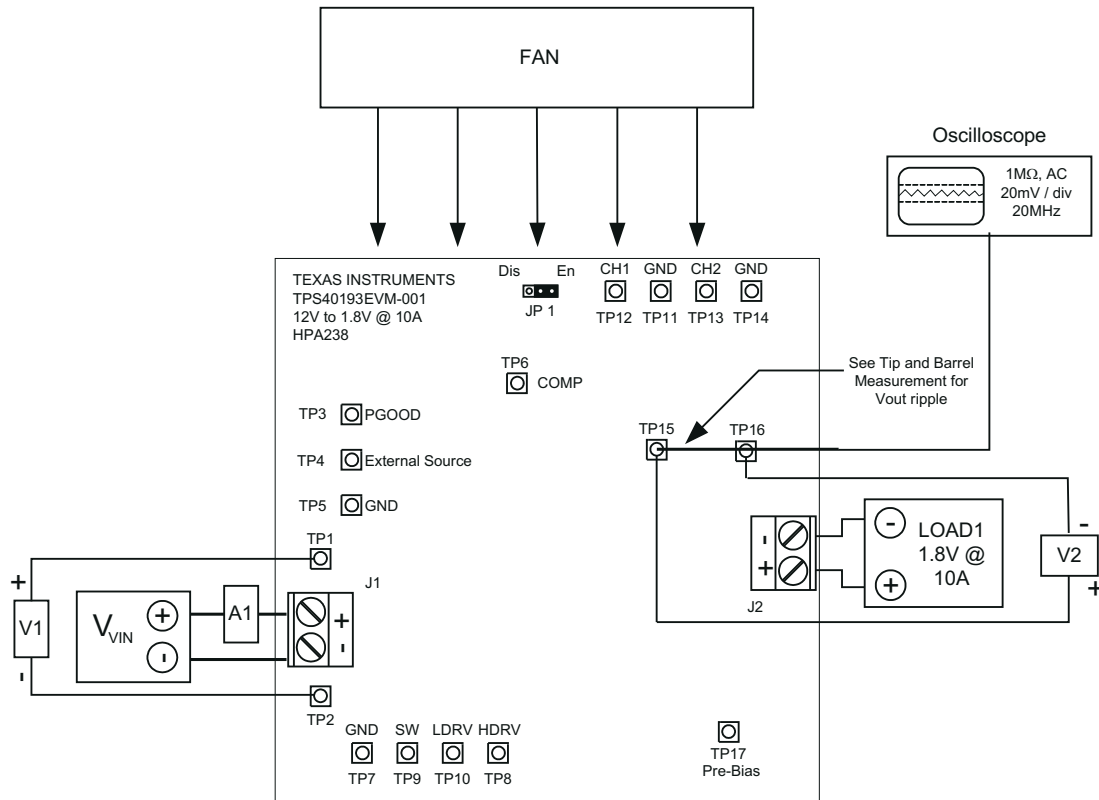
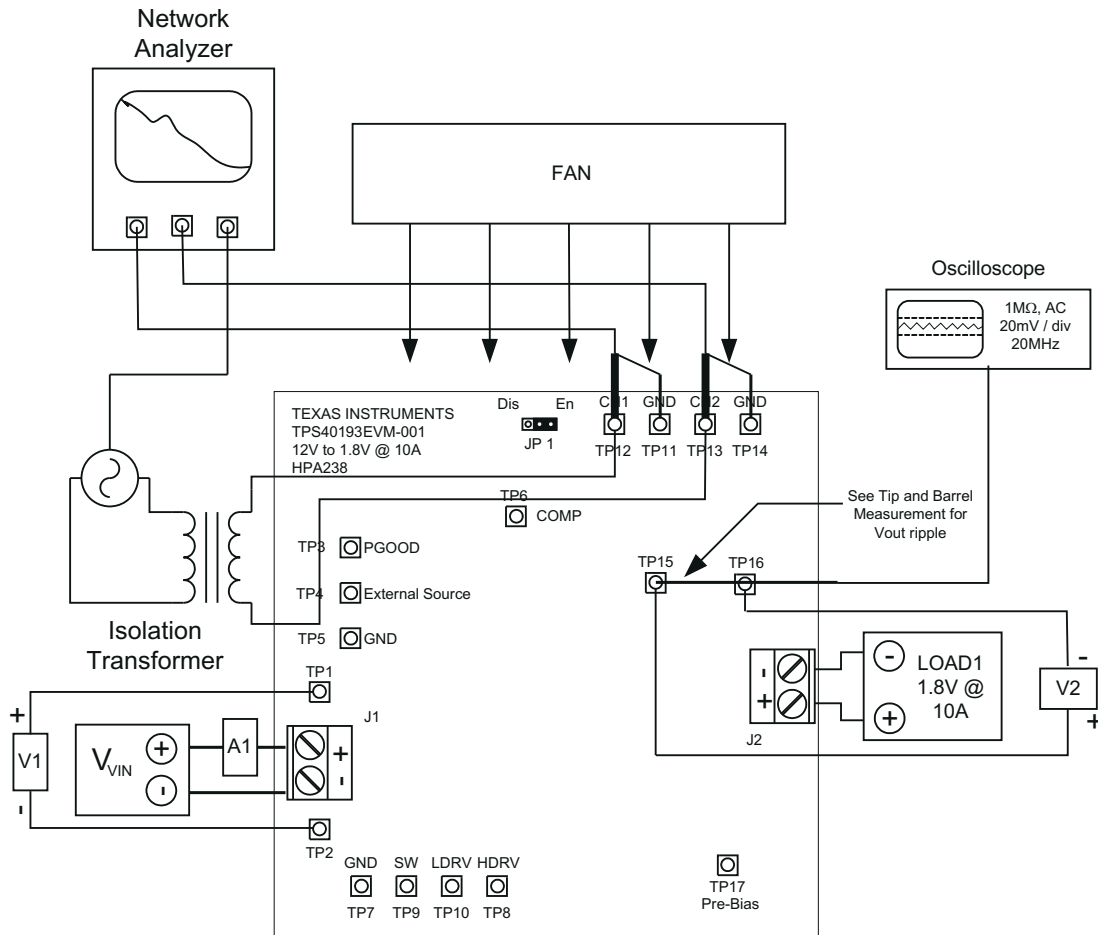

Figure 5-1. TPS40193EVM-001 Recommended Test Setup
Figure 5-3. TPS40193EVM-001 Control Loop Measurement Setup
V_{IN}: The input voltage source (V_{IN}) should be a 0-V to 15-V variable DC source capable of 5 A_{DC}. Connect V_{IN} to J1 as shown in Figure 5-1.
Figure 5-1 through Figure 5-3 show the basic test setup recommended to evaluate the TPS40193EVM-001. Please note that although the return for J1 and J2 are the same, the connections should remain separate, as shown in Figure 5-1.
1. Connect 1-kHz to 1-MHz isolation transformer to TP12 and TP13 as shown in Figure 5-3.
2. Connect input signal amplitude measurement probe (Channel A) to TP12 as shown in Figure 5-3.
3. Connect output signal amplitude measurement probe (Channel B) to TP13 as shown in Figure 5-3.
4. Connect ground lead of Channel A and Channel B to TP11 and TP14 as shown in Figure 5-3.